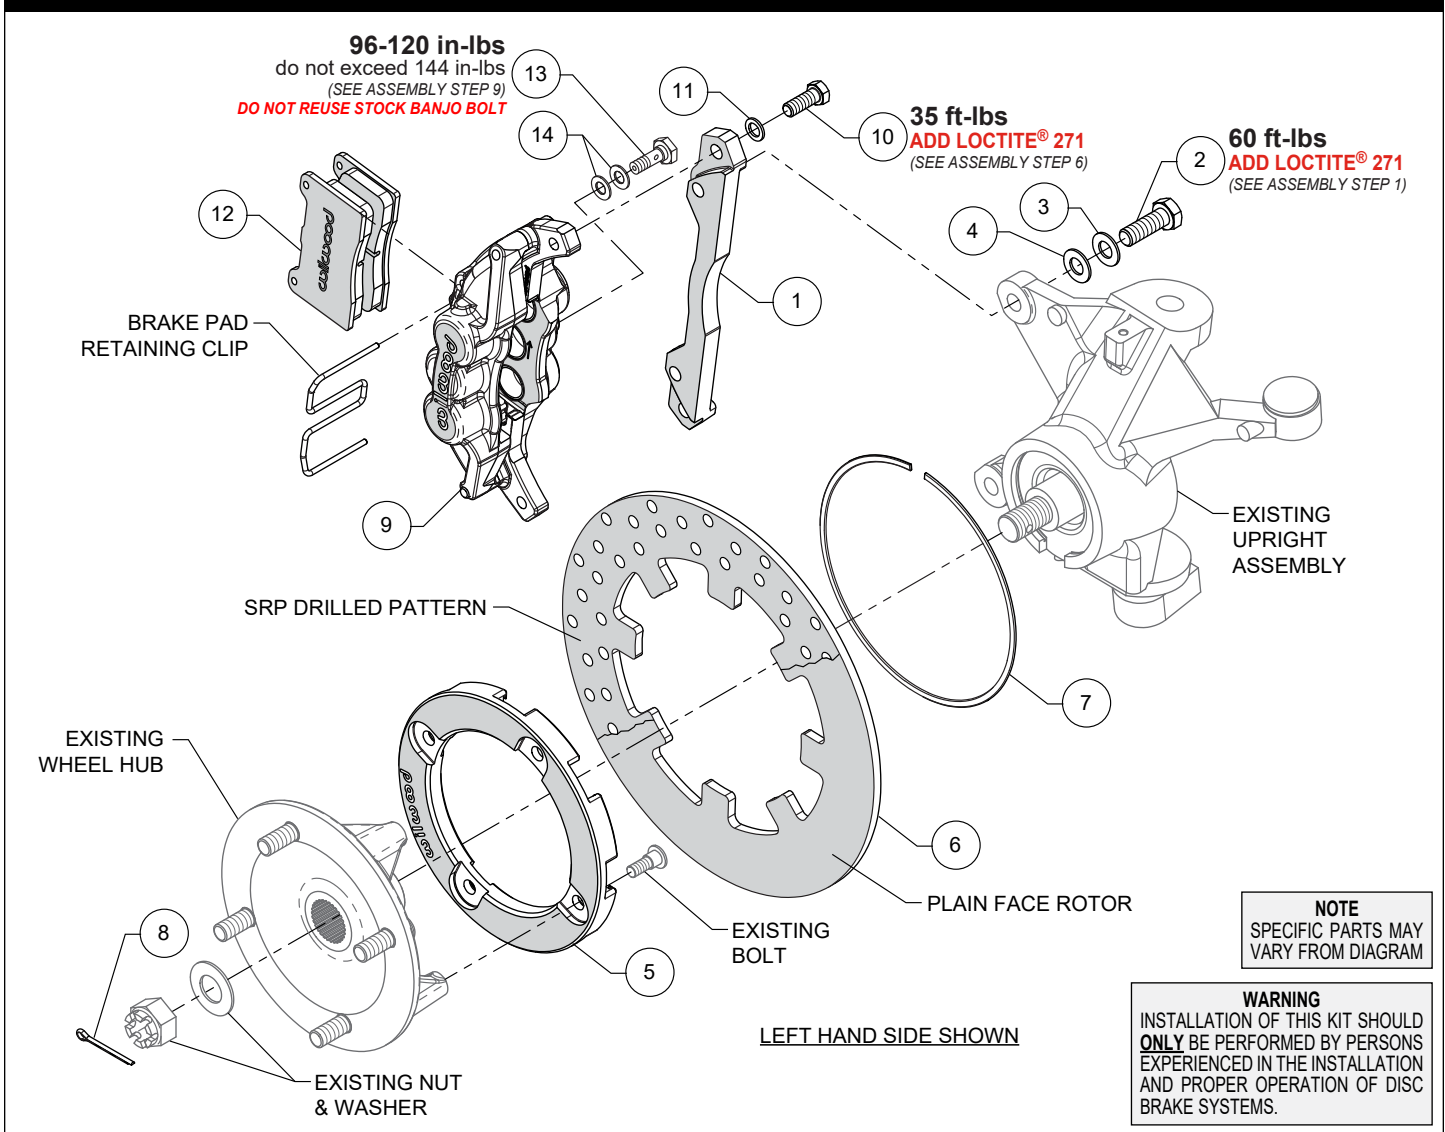

Figure 1. Typical Installation Configuration
**NOTE:** Numbers in parenthesis refer to the parts list and Figure 1 on the preceding pages.
**STEP 1** Orient the caliper mounting bracket (1), as shown in Figure 1 and Photo 1. Install using bolts (2), washers (3), and shims (4) as shown in Figure 1 and Photo 1. Apply red *Loctite*® 271 to the bolt threads and torque to value shown in Figure 1.
**STEP 2** Place the existing OEM wheel hub face down and position the rotor adapter (5) onto the wheel hub as shown in Photo 2. **NOTE:** The existing wheel hub must be free of dirt and debris or excessive rotor run out may result. Attach rotor adapter to wheel hub using existing OEM bolts, Photo 3. Torque to OEM specifications.
**STEP 3** Position the rotor (6) onto the rotor adapter (5), making sure the rotor lugs fit into the recesses of the rotor adapter, as shown in Photo 4.
**STEP 4** Secure rotor to the rotor adapter using the snap ring (7) by installing the snap ring into the groove of the rotor adapter, as shown in Photo 5. Carefully inspect snap ring to ensure complete engagement in the groove.
**STEP 5** Grease the splines and outer snout of the existing wheel hub and slide the wheel hub/rotor assembly onto the axle and attach using the existing OEM washer and castle nut. Tighten to OEM specifications and secure using cotter pin (8), Photo 6.
**STEP 6** Secure the caliper (9) to the mounting bracket (1) using bolts (10) and washers (11), as shown in Figure 1 and Photo 7. Apply red *Loctite*® 271 to the threads, and torque to value shown in Figure 1.
**STEP 7** Remove the pad retainer clip from the caliper (9). Insert the brake pads into the caliper with the friction material facing the rotor, as shown in Photo 8. Reinstall the pad retainer clip, Photo 9.
**STEP 9** Attach brake line to caliper. Connect existing OEM flexline to caliper using banjo bolt (13) and crush washers (14). Do not use lubricant or thread sealant on banjo bolt (13). Torque to minimum value shown in Figure 1. Check for leakage, increasing torque only to stop leakage without exceeding maximum specification. Replace crush washers and banjo bolt whenever reassembly is required. **Ensure hoses are routed to prevent contact with moving suspension, brake or wheel components.**